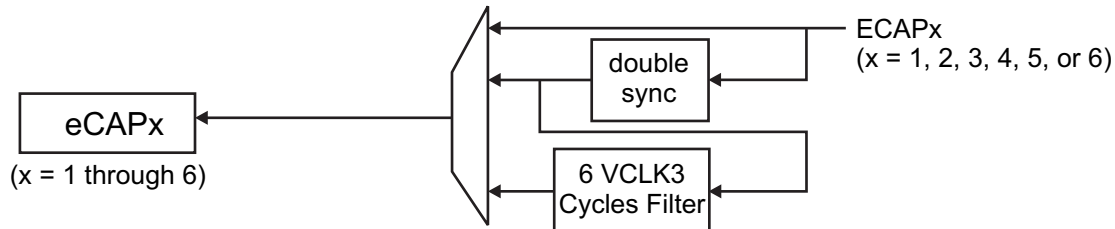

图 7-5. eCAPx Input Synchronization Selection Detail
A. For more detail on the eCAPx input synchronization selection, see 图 7-5.
图 7-5 shows the detailed input synchronization selection (asynchronous, double-synchronous, or double synchronous + filter width) for eCAPx.